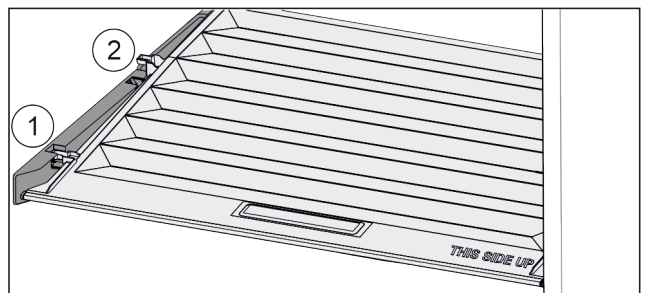

Fig. 38
- Pull the lid up at the front to the opening in the retaining parts Fig. 38 (1).
- Lift from the back and pull it up and out Fig. 38 (2).